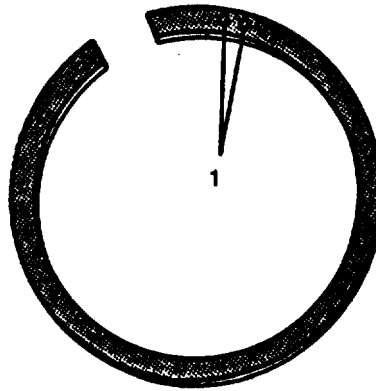

FIGURE 3-145. Compression Ring Identification Marks
- (3) Rectangular compression ring (FIGURE 3-145) is marked with two depressions or with word TOP to identify top side of ring. Install rectangular compression ring in center ring groove with mark toward top of piston.